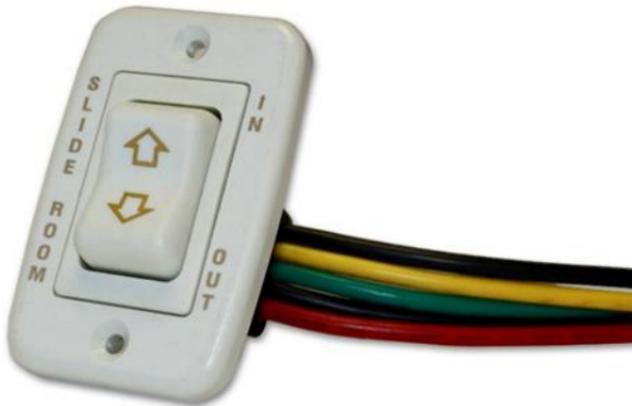

figure 1
- 3)** Insure that the power system switch you will be replacing is a polarity reversing type rocker switch as shown in Figure 1. Some may be a different color or use a different type of rocker switch, but if you find that your switch uses an electronic controller or has more than 5 wires as pictured please contact our technical support department at 855-549-8199 prior to proceeding with this installation.